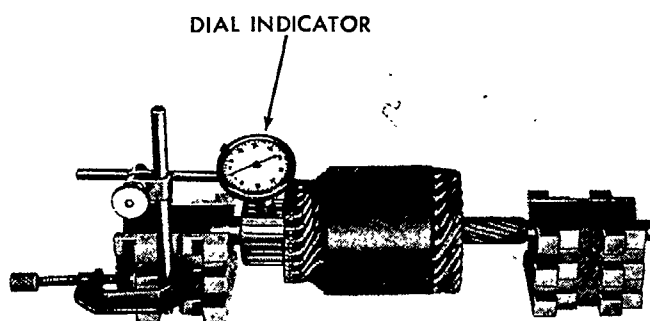

Figure 39
9. Check the commutator runout as shown in Figure 39. If the runout exceeds the specified limits, page 71, turn the surface using a lathe and sharp cutting tool. Rotate the armature at a high speed taking light cuts with the tool. After turning, polish the commutator using a fine abrasive.